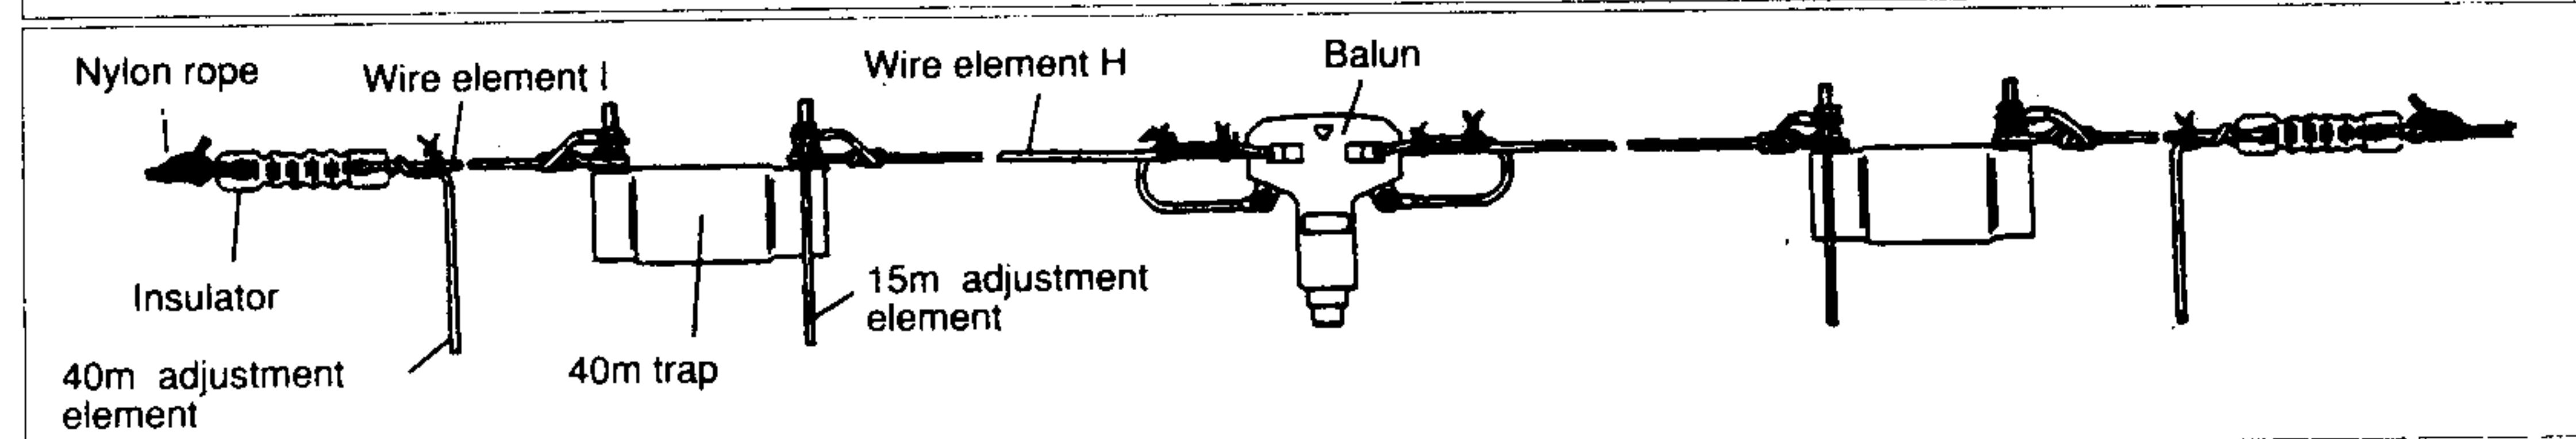

FIG.1
1. Turn wire element approximately 20cm(7.9") through balun and bind two parts by binding wire as shown per Fig.1. In case of the W-8010, two wire elements for one side are bind together.